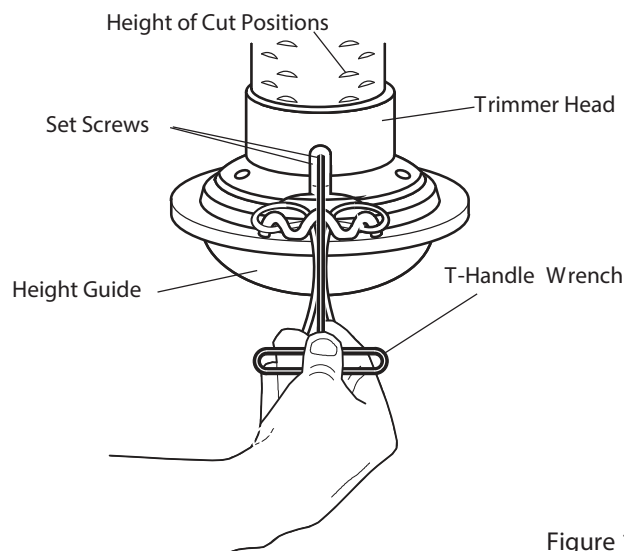

Figure 10
6.12.2 Use the T-Wrench found in the parts bag, to loosen the (2) set screws (See Figure 10).